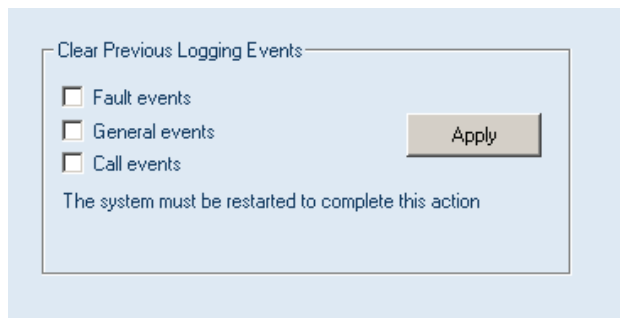

figure 37.10: Clear logging
- 1 Click the *Clear logging* button in the navigation bar. A screen similar to the one in figure 37.10 appears.